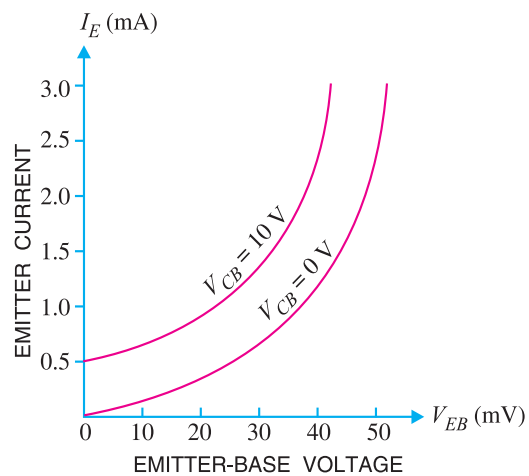

Fig. 8.14
1. Input characteristic. It is the curve between emitter current I_E and emitter-base voltage V_{EB} at constant collector-base voltage V_{CB} . The emitter current is generally taken along y-axis and emitter-base voltage along x-axis. Fig. 8.14 shows the input characteristics of a typical transistor in CB arrangement. The following points may be noted from these characteristics :